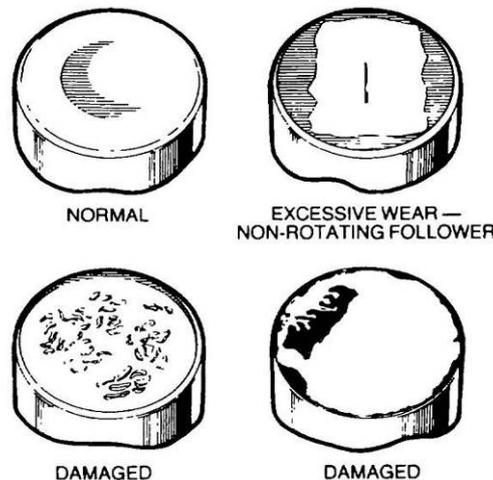

Figure 34 Camshaft Follower Wear Patterns
- b. Inspect the camshaft followers for cracks, pitting or irregular wear (Figure 34).